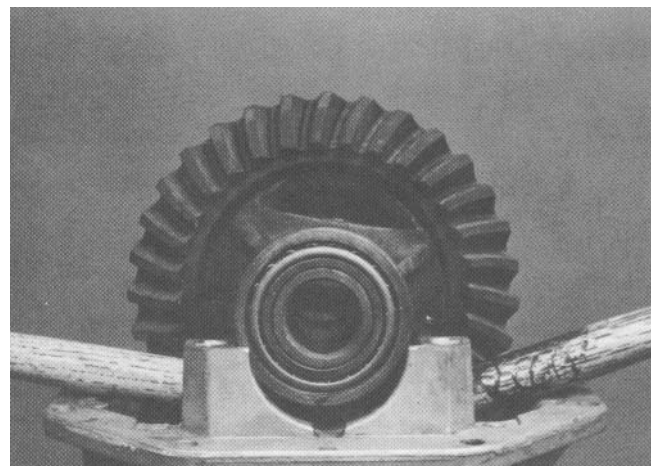

Figure 12
4. To remove the differential assembly, place two wooden devices (i.e. hammer handles) under the differential case and pry firmly upward. Mark the bearing cups and cones, they must be reinstalled in matched sets (Fig. 12).